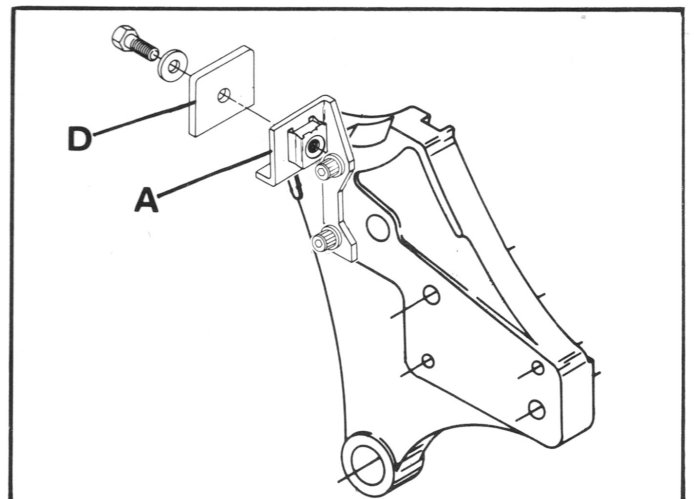
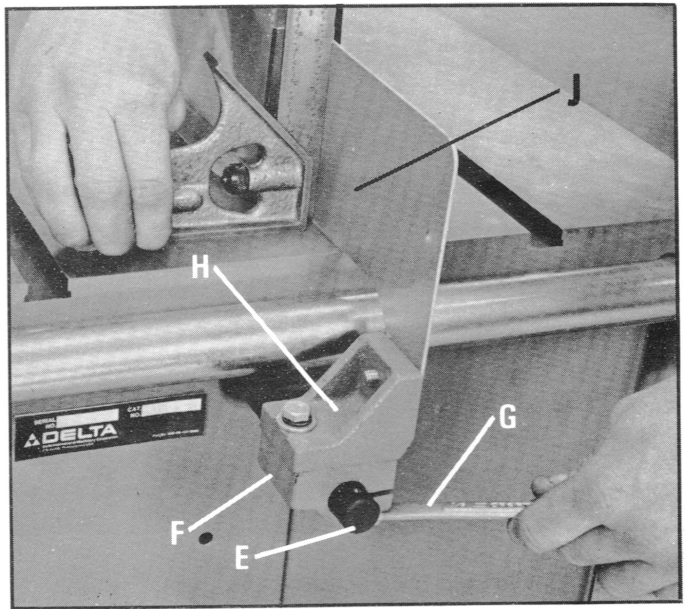
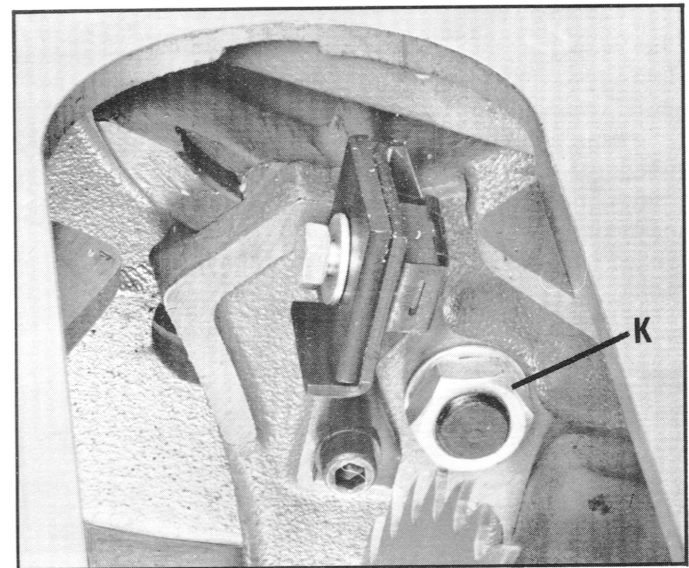
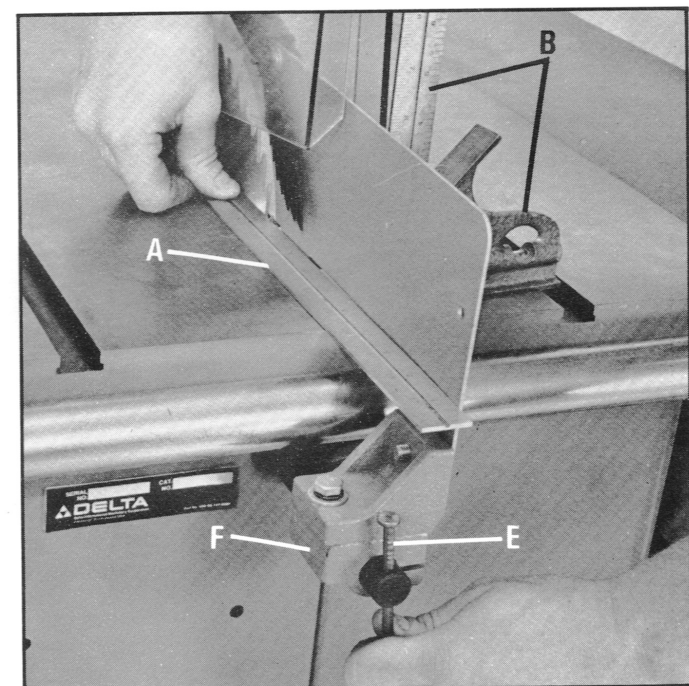

Fig. 9
Fig. 10
Fig. 11
Fig. 12
3. Assemble splitter fastening plate (D) to the bracket (A), using the screw and washer provided, as shown in Fig. 9.
4. Insert threaded end of eccentric rod (E) Fig. 10, through hole in rear of saw carriage and fasten with star washer and nut (K) Fig. 11. Do not fully tighten at this time.
5. Assemble lower rear bracket (F) to eccentric rod (E) and snug up the two screws located underneath the bracket with wrench (G), as shown in Fig. 10.
6. Assemble splitter bracket (H) to lower bracket (F) Fig. 10, using screw and flat washer supplied.
7. Fasten splitter and guard assembly (J) Fig. 10, to the bracket (H), using the screw and washer provided. The splitter assembly is also fastened to the inside of the bracket (A) and (D) Fig. 9.
9. Using a straight edge (A) and square (B) Fig. 12, align the splitter with the blade and table by rotating eccentric rod (E) and rotating bracket (F) until the splitter is in perfect alignment with the blade and square with the table. NOTE: A nail (E) or small rod can be inserted in hole in end of eccentric rod in order to rotate rod, as shown in Fig. 12.
10. When splitter is in alignment with the blade and square with the table, tighten two screws located underneath the bracket (F) Fig. 12, and tighten nut (K) Fig.11.